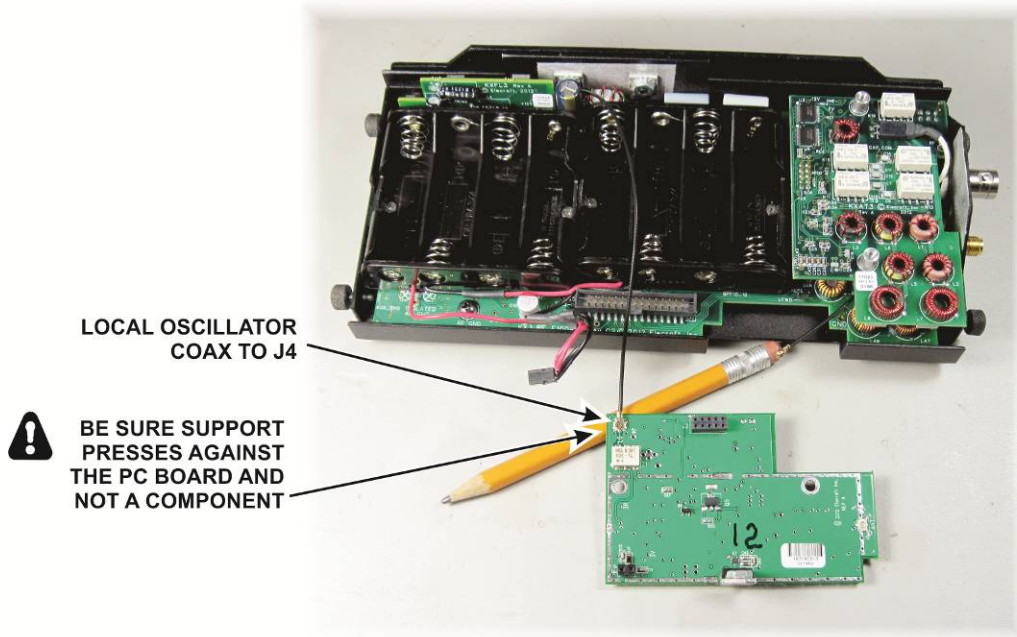

Figure 20. Attaching the Local Oscillator Cable to the KX3-2M or 4M Board.
- Connect the local oscillator coaxial cable to the L.O. connector (J4) on the KX3-2M or 4M board using a solid object to support the board from behind while you press the connector in place with a tool such as a plastic pen just as you did before at L.O connector J4. Figure 20 shows a common pencil used to support the board but any solid support that rests directly against the printed circuit board and not the components on the board is suitable.